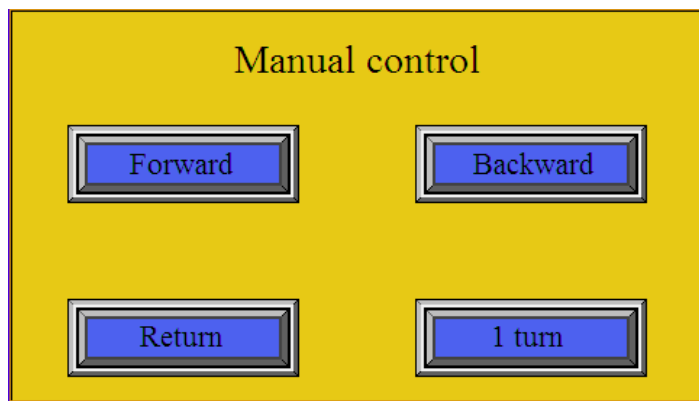

Fig. 12: Manual control
1. When changing the tools it is necessary to carry out a testing upstroke (turn) to make sure that both tools are parallel, and also to make sure that either creasing or perforating tool is leaned against the slide. To do this press the “Move” icon and the following menu comes up – “Manual control” (fig. 12).